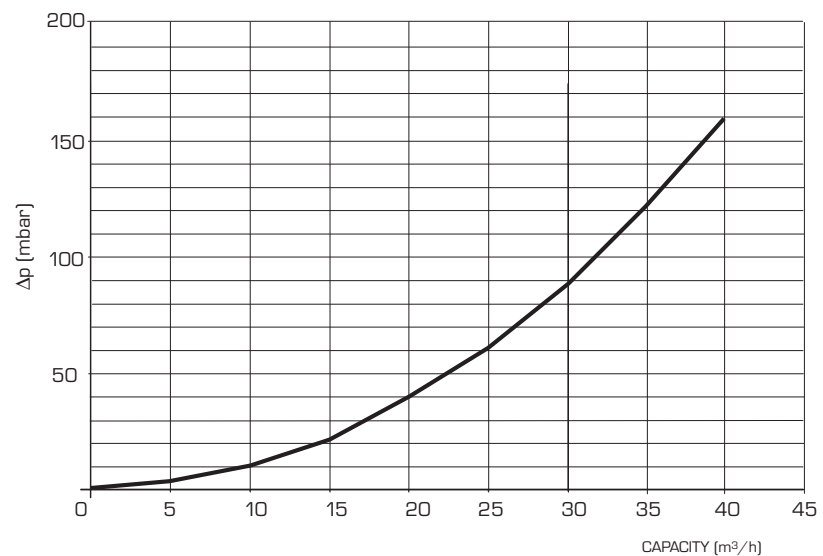

Fig. 9
2.10 SYSTEM AVAILABLE HEAD (fig. 9)
The head available of the generator supply/return manifolds vs. the flow rate is shown on the chart of figure 9.
Hydraulic separator load losses are indicated in the diagram in fig. 9.